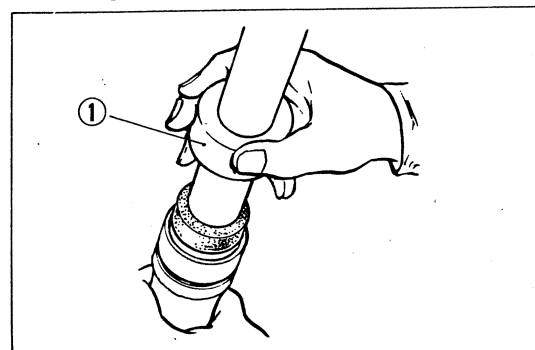

Fig. 42 ① Oil seal installer
- 4) Drive the oil seal into place in the bottom case. Use tool "Oil Seal Installer. 07947-3550000. (Fig. 42)